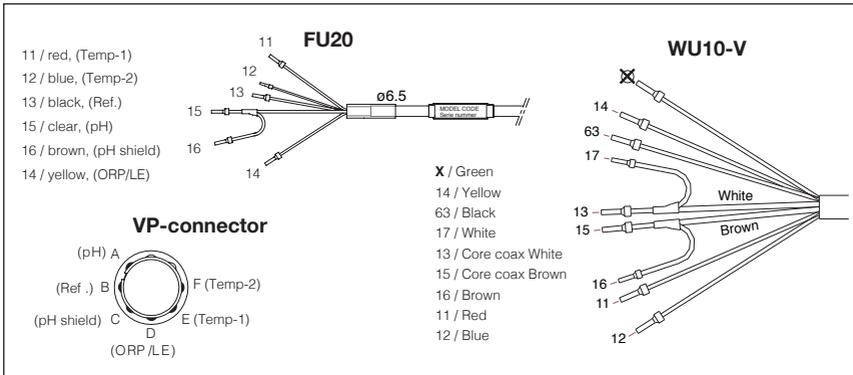

Figure 7. Cable marking and pin locations
The FU20 sensor is provided with a fixed cable or Variopin (VP) connector. The connections of both the wire as the VP connector are given in Figure 7.